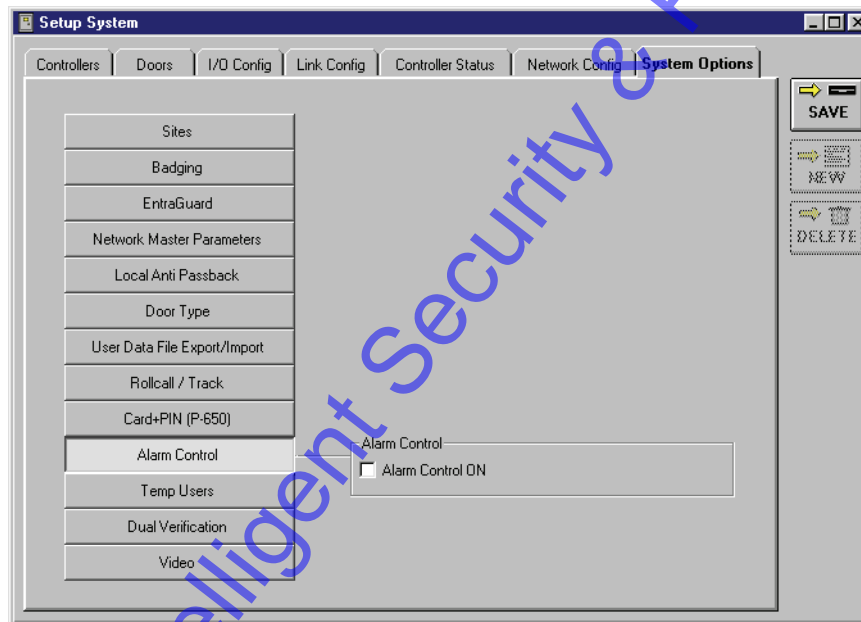

Figure 2-28: Alarm Control Field
1. From the System Options tab, click on the  button. The System Options window will reveal the Alarm Control field (see Figure 2-28).